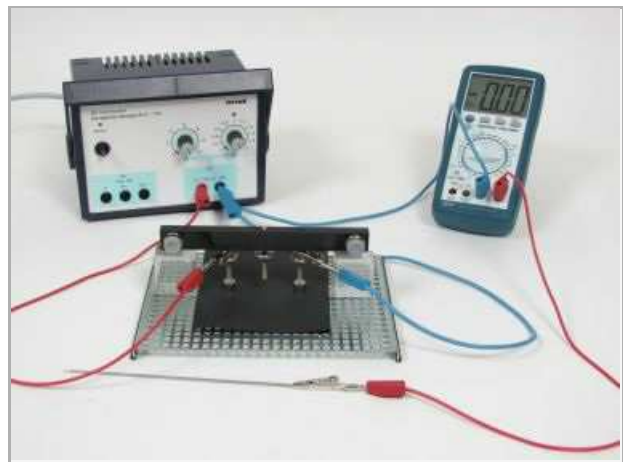

Fig. 11
- Connect both electrodes to the outputs of the power supply (Fig. 11).